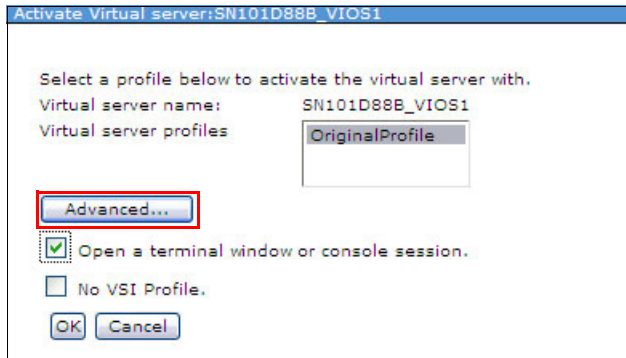

Figure 10-19 Activating the virtual server
17. Click **Advanced**, as shown in the Figure 10-19.